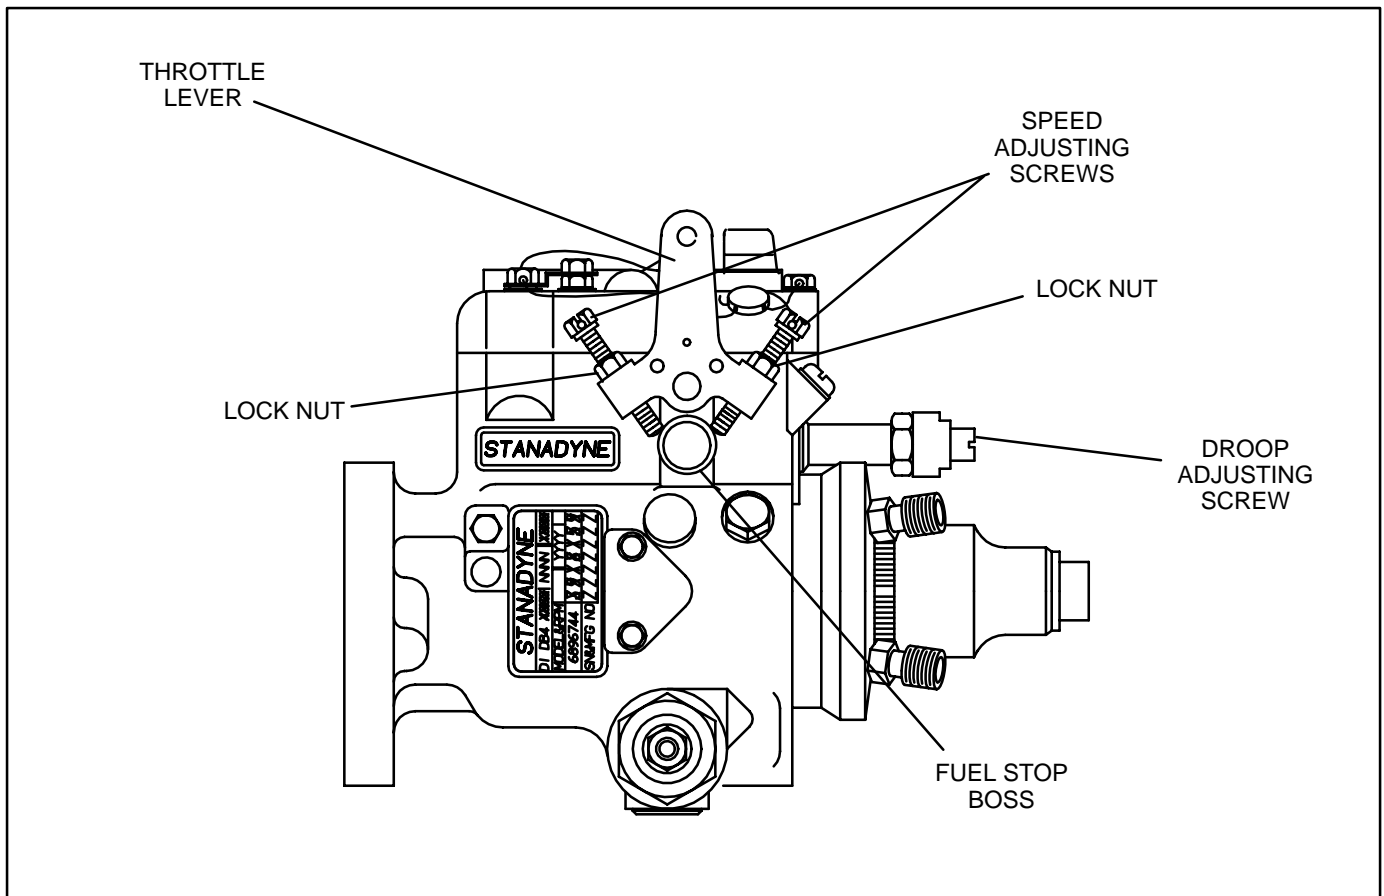

FIGURE 6-1. MECHANICAL ENGINE GOVERNOR
If the injection pump has been replaced, it will be necessary to adjust the position of the throttle lever before connecting the actuator linkage. The throttle lever is on the side of the pump away from the engine. See Figure 6-1.
2. Loosen locknut on both throttle speed adjusting screws (Figure 6-1). Adjust both screws in or out to obtain engine speed of 2010 RPM (67 Hertz) for 60 Hertz sets or 1680 RPM (56 Hertz) for 50 Hertz sets.